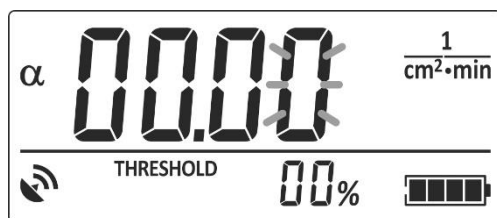

Figure 2.25 – LCD of the dosimeter
2.3.6.7.3.2 If you keep holding THRESHOLD for more than 4 s, the value of the alarm threshold level is returned to zero, and its low-order digit starts blinking (Figure 2.25). Then release THRESHOLD.